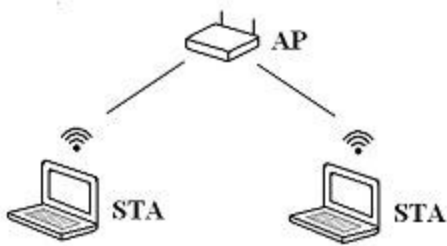

Figure 6-1. Infrastructure network
The NL241 can be configured to join an already established infrastructure wireless network (WLAN) (see Figure 6-1 [p. 17]). An infrastructure wireless network is one in which all devices or stations (STA) communicate through an access point (AP). This AP will typically connect the wireless network (and the NL241) to a larger wired company or home network and/or the internet. The AP device also controls and routes all the traffic on the wireless network. Once the NL241 has successfully joined the existing wireless network, it can communicate with other devices on the network.